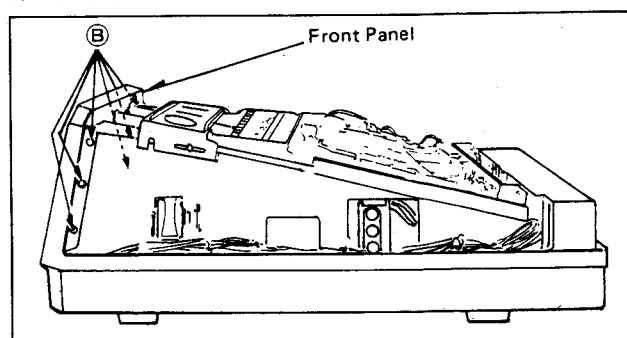

Fig. 2
- 1) Remove 6 screws (B) as shown in Fig. 2.